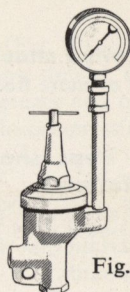

Fig. 73
91. What is a fluid regulator? (Fig. 73)